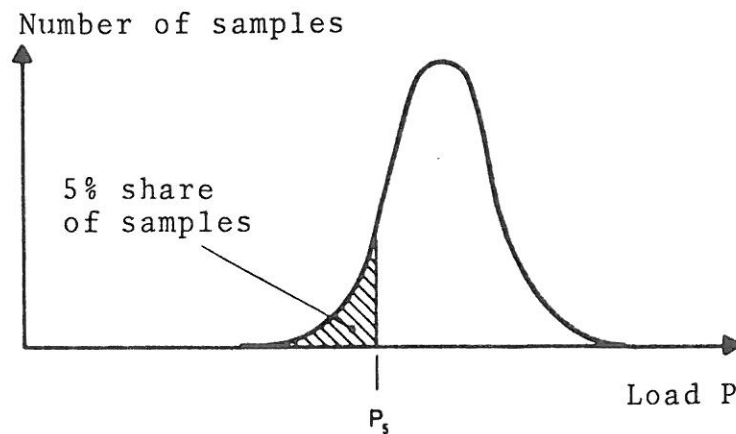

Fig 3. Definition of the characteristic value P_5 taken from a number of pull out or loading tests.
Fig 3 and 4 are based upon tests by loading the nail parallel (T) and perpendicular (N) to the surface of the concrete block respectively. A "characteristic value" P_5 is calculated, Fig 3. Approximately this value can be defined as the load level having 5% of the test values below P_5 .